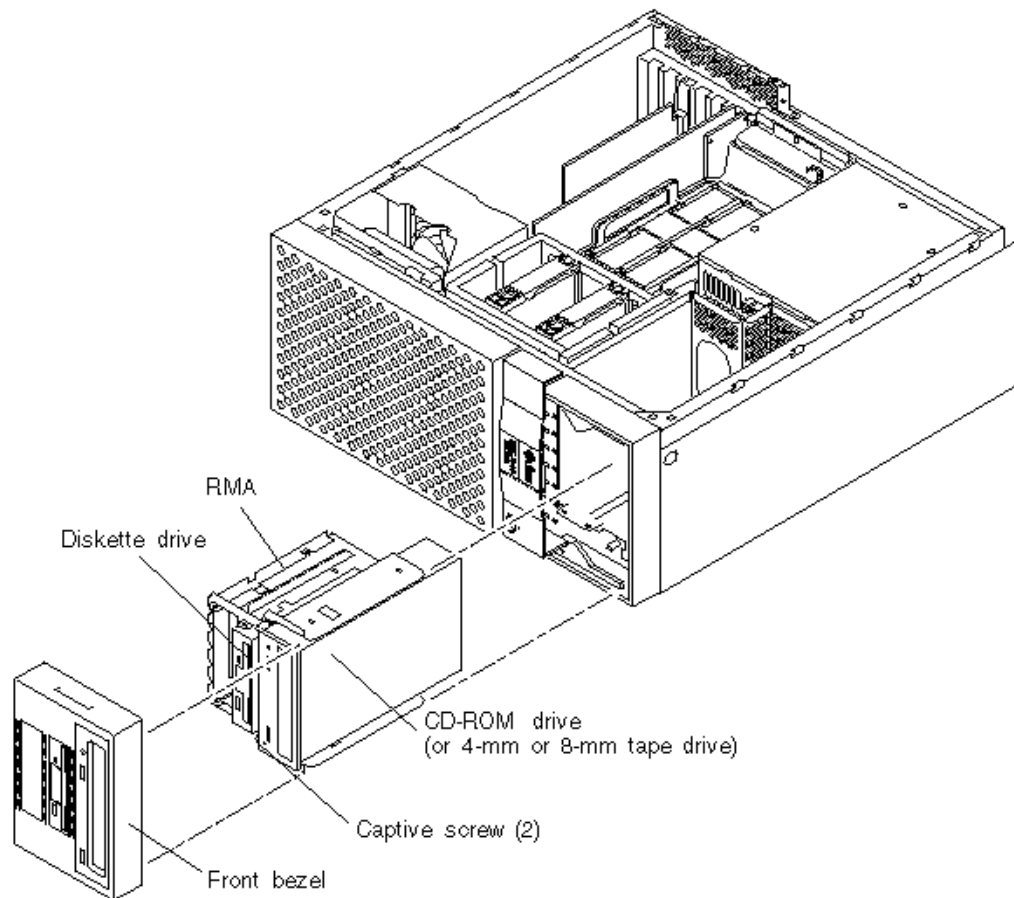
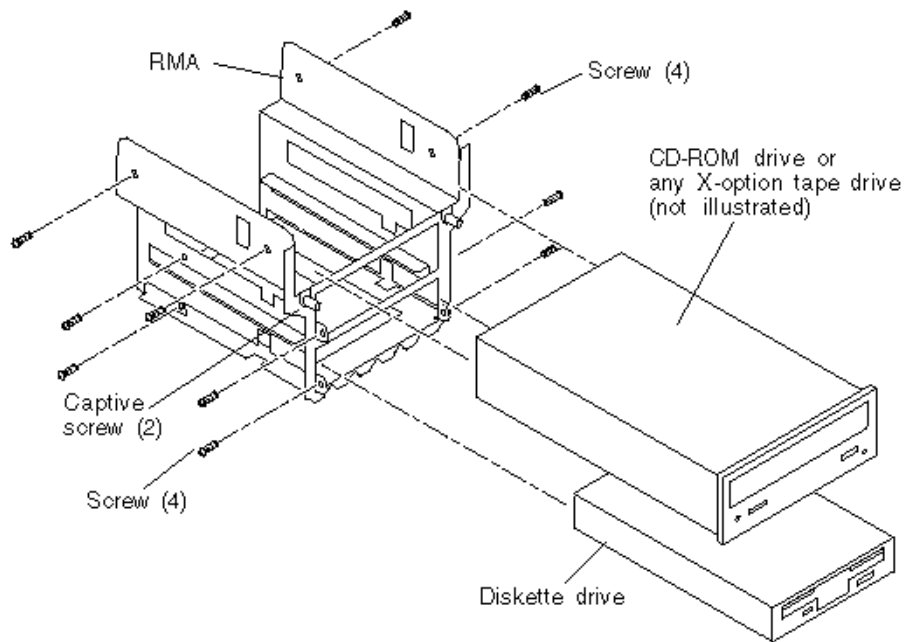

Figure 9-2 Removing and Replacing a RMA Drive (Part 1 of 2)
Figure 9-3 Removing and Replacing a RMA Drive (Part 2 of 2)
To remove and replace a removable media assembly (RMA) drive, it is necessary to remove and replace the RMA. To remove and replace the RMA and an RMA drive, refer to Figure 9-2 and Figure 9-3 and proceed as follows.
4. Remove the RMA as follows (Figure 9-2):
1. Position the RMA on a flat surface so that the CD-ROM drive or tape drive is flat (Figure 9-3).
1. Position the CD-ROM drive or tape drive into the RMA (Figure 9-3).
2. Using a number 2 Phillips-head screwdriver, remove the four screws securing the diskette drive to the RMA (Figure 9-3).
1. **Position the diskette drive into the RMA (Figure 9-3).**
1. **Replace the RMA as follows (Figure 9-2):**